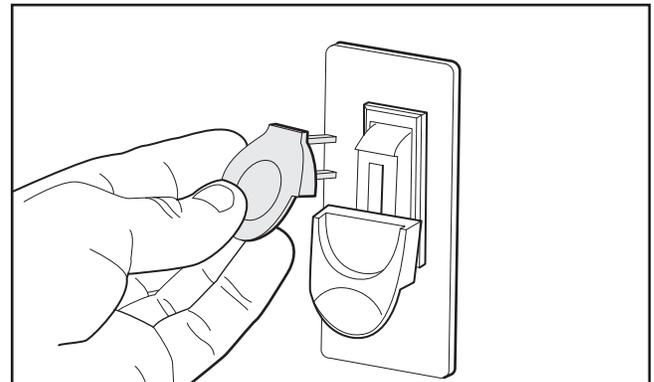

Figure 12. Removing switch key from paddle switch.
6. Remove the switch disabling key, as shown in **Figure 12**.